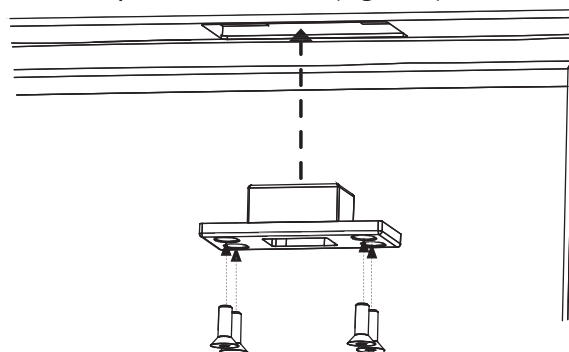

Figure 2
- Install four (4) #12-24 socket cap flat head screws. (Figure 2)